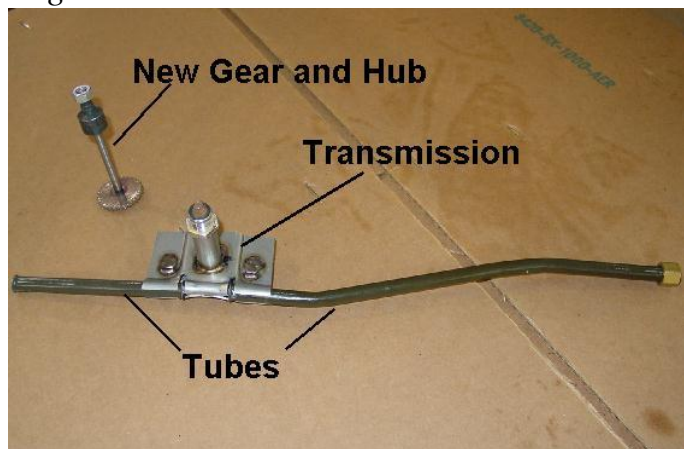

Fig. 16
11. The tube and transmission assembly can now be taken to the workbench, to install the gear. *Fig. 16*